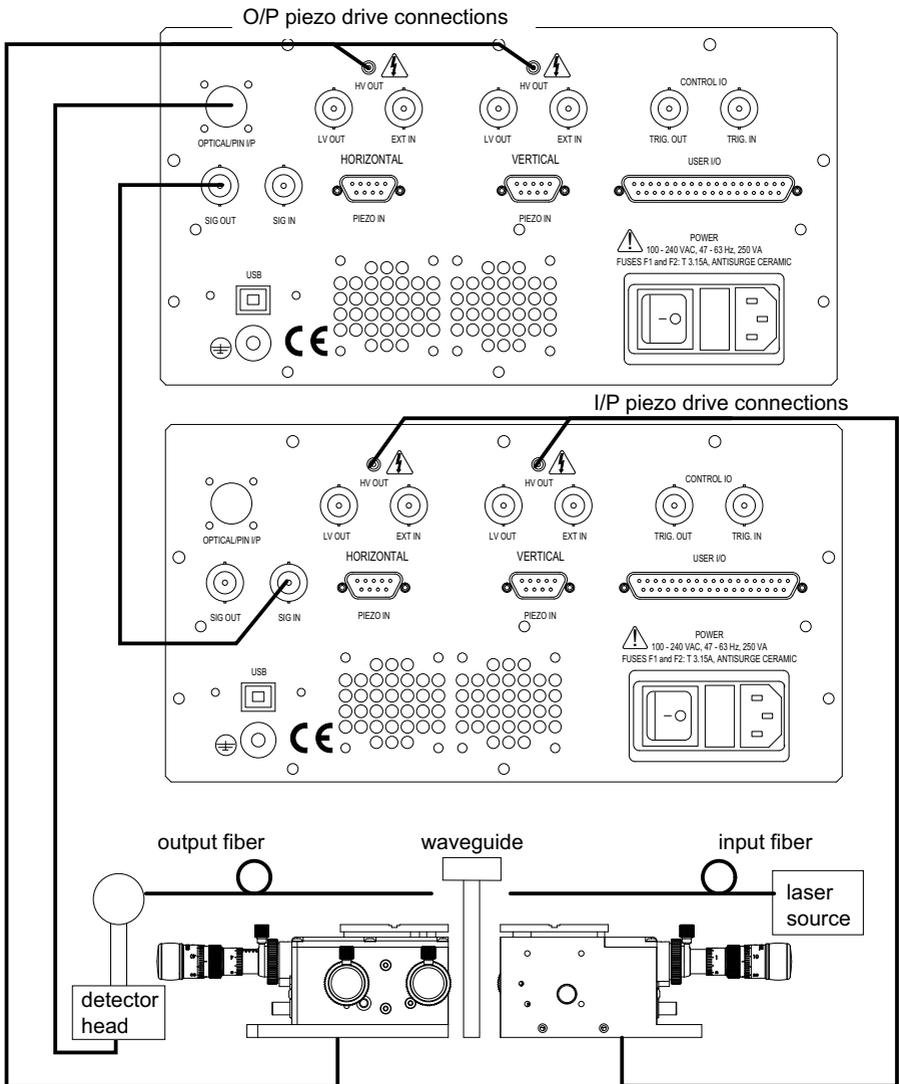

Fig. 3.12 Dual NanoTrak connections
The NanoTrak scanning process uses a single frequency (and a highly selective discriminator similar to a radio receiver) and it is possible to use more than one NanoTrak controller in a single optical path (and with a single detector). For example, with two control units set to different scanning frequencies (e.g. 30 Hz and 40 Hz) it is possible to couple fibers both into (master NanoTrak) and out of (slave NanoTrak) an integrated optical device such as a waveguide – see Fig. 3.12. The scan frequency and input source can be set either via the application software (see *APTServer Helpfile*) or directly via the Settings panel – see Section 3.8.2.
- 1) Make connections as shown in Fig. 3.12.